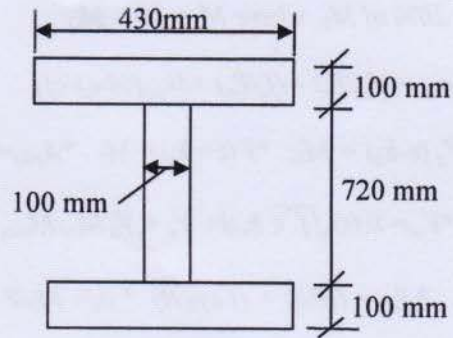

Figure: 4
5. Make final design for the preliminary section shown in **Figure 4** (obtained based on elastic theory) allowing no tension in the concrete both at transfer and under working load. Also make comment on the adequacy of the section considering the given moment. Given that $f_t = -11$ MPa, $f_b = -12$ MPa, $f_0 = 1035$ MPa, $f_{se} = 860$ MPa, $F = 826$ kN, $M_T = 435$ kN-m, $M_G = 55$ kN-m, and $I = 17.64 \times 10^9$ mm⁴. (15)